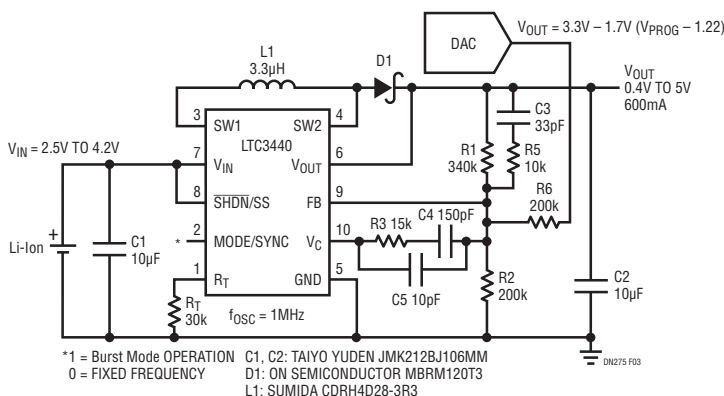

Figure 3. WCDMA Power Amp Power Supply with Dynamic Voltage Control
For the new 3rd generation (3G) cellular phones, the high speed data transmission imposes a stringent power demand on the battery. Maximum overall efficiency and operation over the entire battery voltage range are required to maximize run time. A 2W, dynamically controlled power supply for a WCDMA cell phone power amplifier (PA) is shown in Figure 3. By adjusting the voltage across the PA, the overall efficiency to the antenna is improved, and a linear PA can be utilized. At peak power, the PA requires the highest programmed voltage, typically 3.4V to 4V depending on the PA. At the lowest power level, when only voice is transmitted and the user is close to the basestation, the PA draws less than 100mA and requires a lower voltage, typically between 0.4V to 2V. Since the LTC3440 can regulate an output voltage above, below or equal to the battery voltage, the maximum transmit power can be maintained over the entire voltage range. For applications requiring a program voltage below 2V, a Schottky diode is required from the SW2 to  $V_{OUT}$  pins to provide a low impedance power path since the internal synchronous